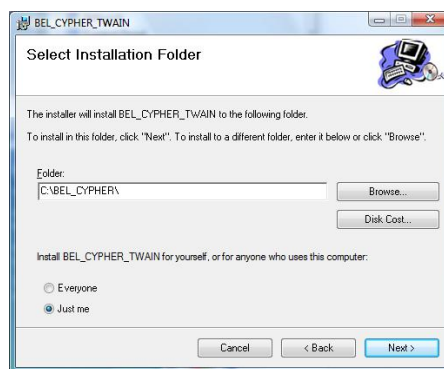

Fig 5 “Select Installation Folder” screen
7) The “Select install folder” dialogue such like Fig 5 is displayed. Click “Next”